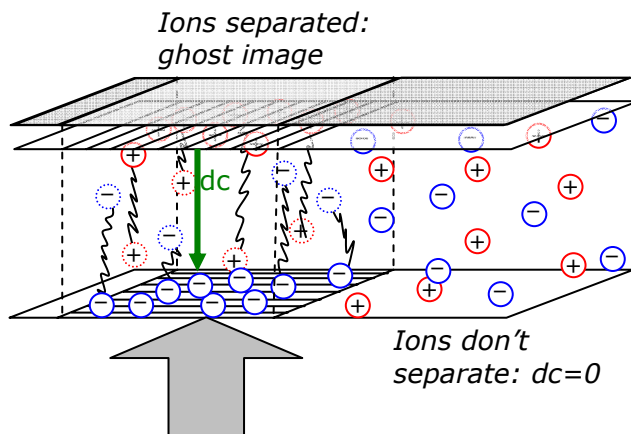

Fig.5 Illustration of image sticking
1) As said above, the driving voltage of LCD screens changes the polarity. Because the used voltage forms are complicated, it might be possible that there is a small dc component left on top of the alternating voltage. During a longer time, this dc component will separate the ions in the liquid crystal layer (see figure 5). The amount of ion separation depends on the dc voltage component, thus also on the displayed image. Furthermore, the separated ions can stick to the alignment layers. When the steady image is removed and a grey background is shown on the whole screen, the separated ions will remain in their position for some time. Now